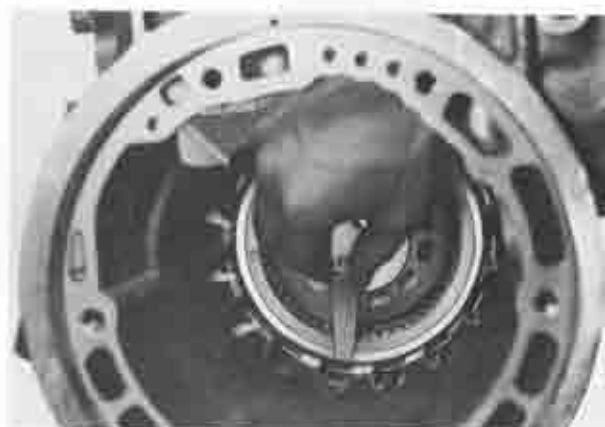

Fig. 7A-29 Measuring clearance
5. Check the operation of the low and reverse brake by blowing air into the oil hole as shown in Fig. 7A-27.